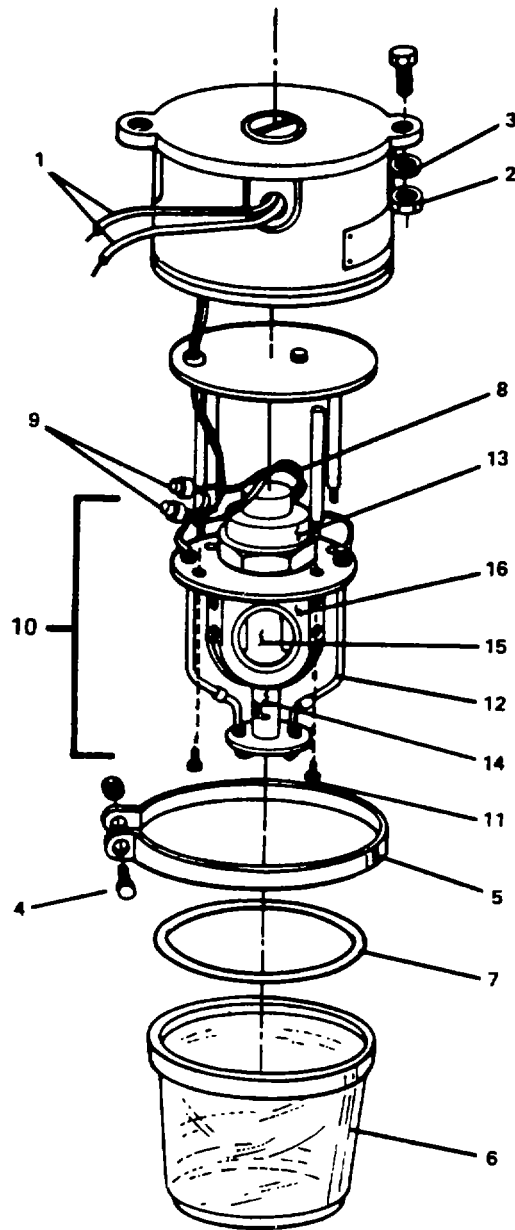

Figure 2-119. Replace/Repair Rotating Beacon.
- a. Tag and disconnect electrical wiring (1, Figure 2-119) to rotating beacon.
- b. Remove two hex head nuts (2) and lockwashers (3). Remove rotating beacon.